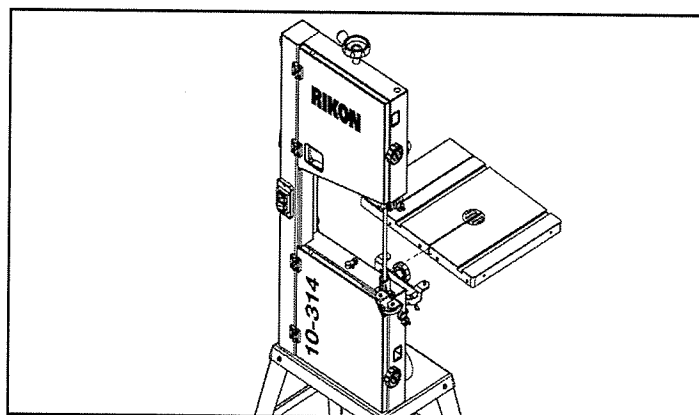

FIGURE 2
1. Mount the table (Part #7C) in place on the trunnion. Do this from the rear of the machine, so that it is easier to fit the pre-installed blade through the slot in the table. FIG. 2.